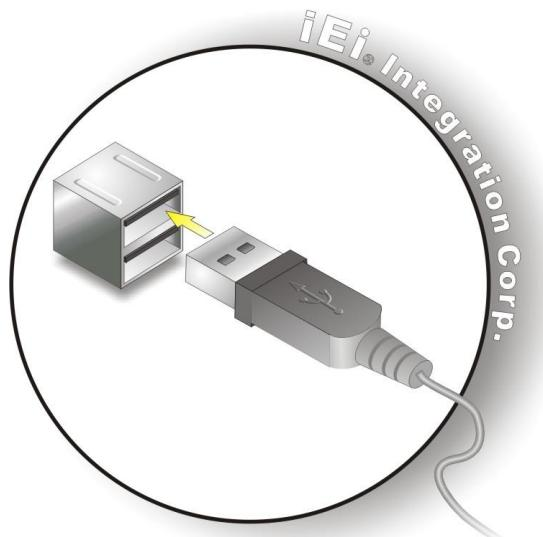

Figure 3-19: USB Device Connection
Step 2: Align the connectors. Align the USB device connector with one of the connectors. See **Figure 3-19**.